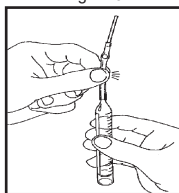

Figure 4
- Snap the tip of the ampoule at the black snap ring (fig. 4).